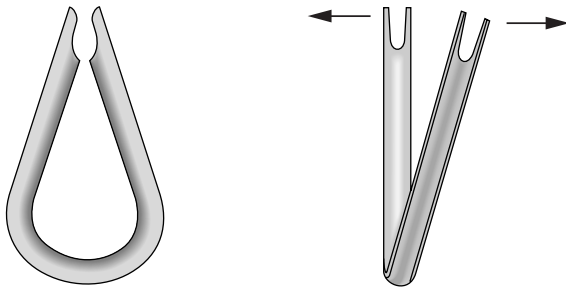

FIGURE 2-7. Thimble Twisting
- a. Place a thimble into each of the three small holes of the top plate. Twist each thimble slightly, as shown in Figure 2-7, to accomplish this.